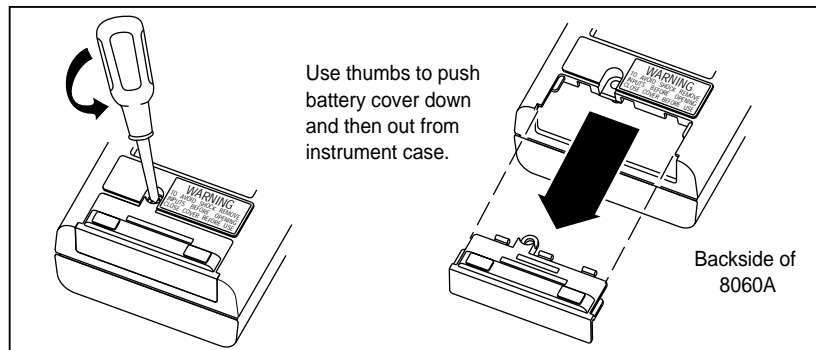

Figure 2-1. Removal of Battery Compartment Cover
3. Turn the instrument over and remove screw from battery cover as shown in Figure 2-1.
4. Use your thumbs to push off the battery cover as shown in Figure 2-1.